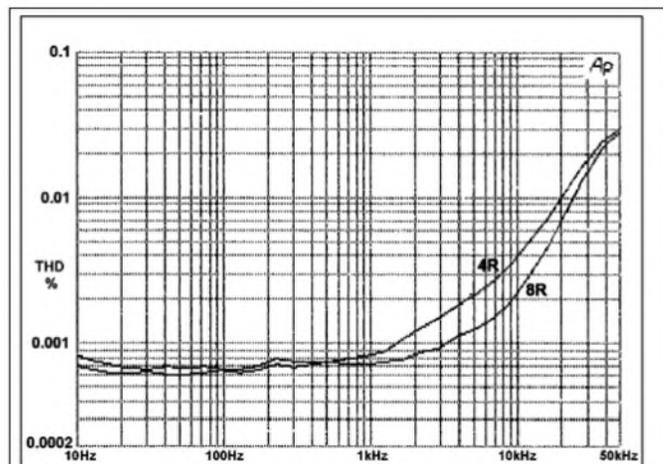
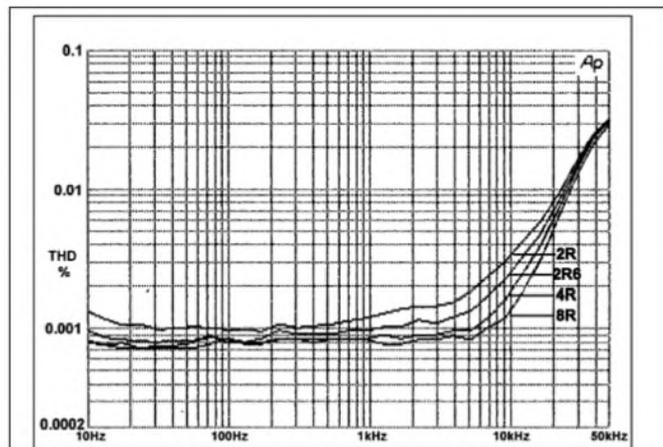

FIGURE 14: Measured THD for a triple-EF output stage with N=2.
FIGURE 15: Measured THD for a triple-EF output stage with N=7.
Figure 14 shows the same except there are now two pairs of output devices. Note that THD has halved at both 8 and 4Ω loads; this is probably due to the larger currents taken by 8Ω loads at this higher power. Figure 15 shows the result for six devices; 8Ω distortion has almost been abolished, and the 4Ω result is almost as good. It is necessary to go down to a 2Ω load to get the THD clear of the noise so it can be measured accurately. With six outputs, driving a substantial amount of power into this load is not a problem.
Adding more output devices in parallel, while driving an 8Ω load, results in a steady reduction in distortion. Figure 15 shows how this works in reality. The SPICE simulations in Fig. 16 reveal that increasing the number of output devices (N) not only flattens the crossover gain wobble, but also spreads it out over a greater width. This spreading effect is good because it means that lower-order harmonics are generated, and at lower frequencies there will be more negative feedback to linearize them. (Bear in mind here that a triple-EF output has an inherently wider gain wobble than the double-EF.)